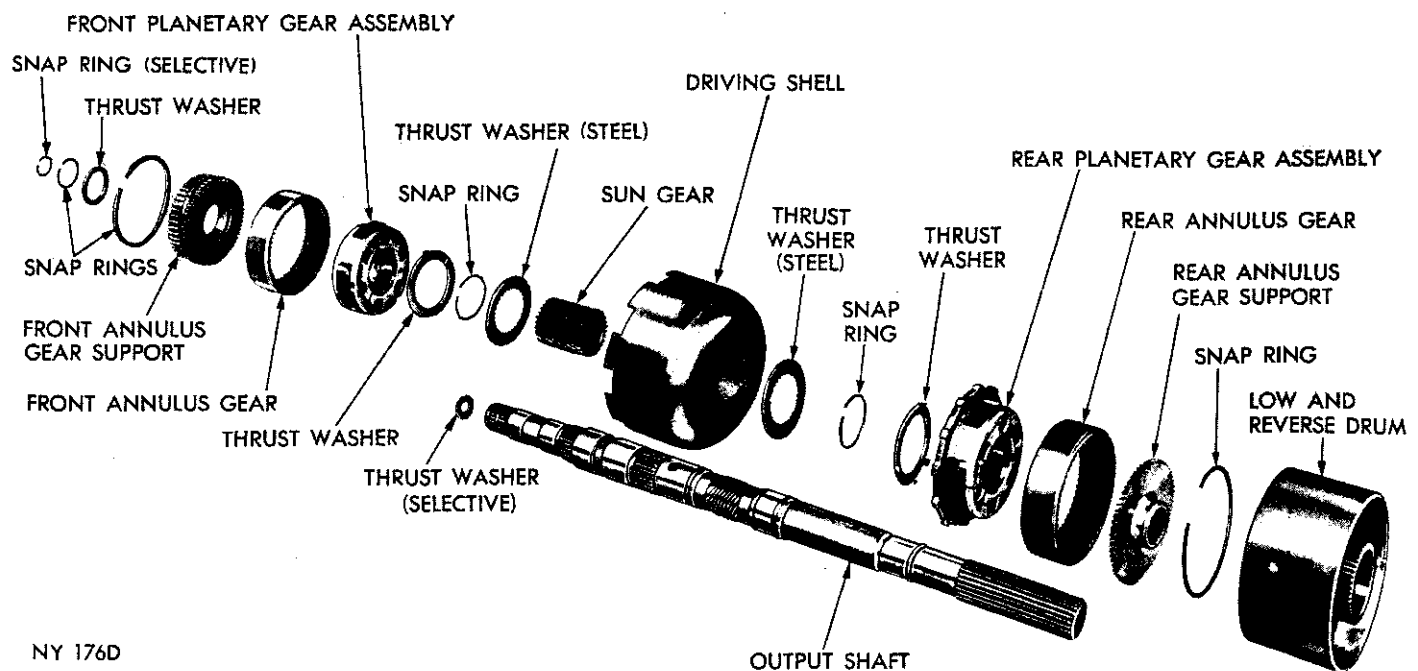

Fig. 71—Planetary Gear Train and Output Shaft Disassembled (A-904)
(1) Remove selective thrust washer from forward end of output shaft (Fig. 71).
(2) Remove selective snap ring from forward end of output shaft, then slide front planetary assembly off the shaft.
(3) Remove snap ring and thrust washer from forward hub of front planetary gear assembly, slide front annulus gear and support off planetary gear set (Fig. 71). Remove thrust washer from rear side of planetary gear set. If necessary, remove snap ring from
Refer to Figure 71 for parts reference.